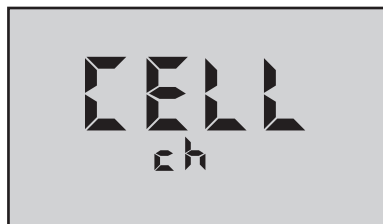

Figure 21
3. Press  repeatedly until you pass the **FAC SEL** location. The display will show a “**CELL ch**” (see Figure 21).